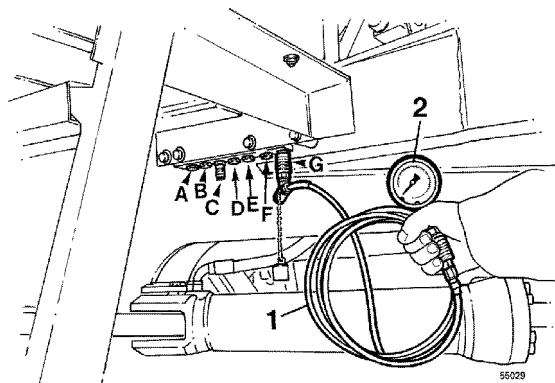

Figure 3
- Directional gear in neutral position. The main pressure is measured at item G, see Figure 3.
Speed gears 1, 2, 3 or 4 (certain markets only 3) should be selected and the clutch pressures measured at the panel, outlets A – D, see Figure 3.
- Directional gear in forward and reverse positions respectively. The clutch pressures for the respective gears are measured at items E and F, see Figure 3.